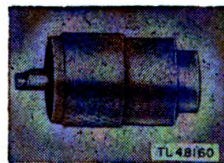

Figure 19. Plug PL-259.
e. Plug PL-259 (fig. 19) is short-circuited internally and is used to replace the antenna on Radar Set AN/TPX-4 when receiver alignments and adjustments are being made.